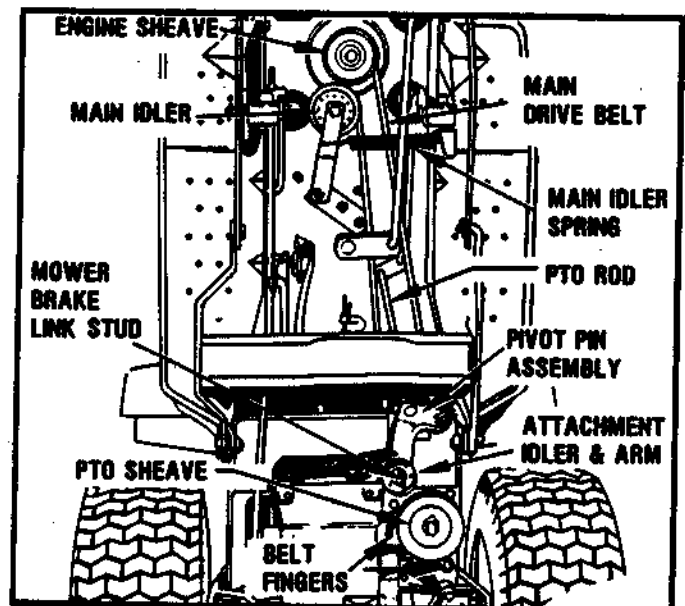

FIGURE 16
- Lower the mower pan. Remove the hairpin cotter and washer from the stud on the attachment idler (Figure 16) and disconnect the mower brake link.
- Raise the mower deck. Loosen the belt fingers on the tractor PTO sheave, slide them to one side, and remove the mower belt from this sheave. See Figure 16.
MAIN DRIVE BELT REPLACEMENT — FIGURES 16 & 17
sheave and remove or rotate the belt fingers away from PTO sheave. See Figure 16. Spindle housing should be free to move, allowing belt removal.
- Remove hairpin and mower brake link from attachment idler. See Figure 16.
- Disconnect attachment idler spring from anchor on right side of transaxle. (Use vise grips — See Figure 16.)
- Remove cotter pin, washer and PTO Rod from attachment idler arm. See Figure 16.
14. Remove PTO pivot pin, hairpin and washer. See Figure 16.
16. Disconnect main idler spring from anchor point at left side of frame. (Use vise grips). See Figure 16.
17. Slide rear of belt ahead and between upper traction and lower attachment idler assemblies. See Figure 16.
6. Feed PTO rod between main drive belt lengths and install end through hole in attachment idler arm. See Figure 16.
7. Install washer and cotter pin in PTO Rod - See Figure 16.
10. With the main drive belt in the groove, re-assemble the spindle housing and belt fingers. See Figure 16.
11. Reconnect main idler spring to anchor hole on left side of frame. Be sure main idler is on backside of main drive belt and spring is above steering link. See Figure 16.